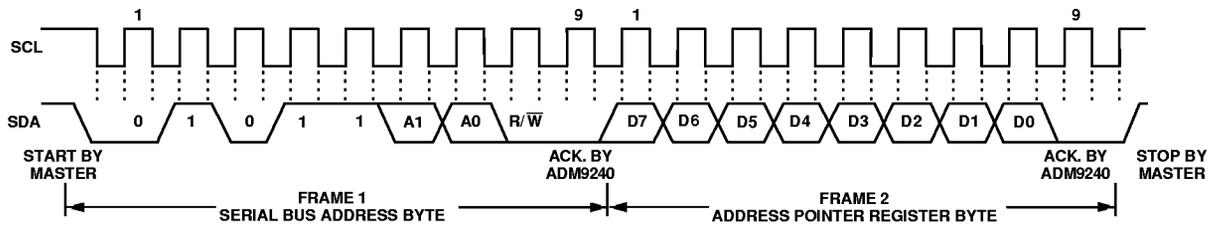

Figure 2b. Writing to the Address Pointer Register only
1. If the ADM 9240's Address Pointer Register value is unknown or not the desired value, it is first necessary to set it to the correct value before data can be read from the desired data register. This is done by performing a write to the ADM 9240 as before, but only the data byte containing the register address is sent, as data is not to be written to the register. This is shown in Figure 2b.
2. If the Address Pointer Register is known to be already at the desired address, data can be read from the corresponding data register without first writing to the Address Pointer Register, so Figure 2b can be omitted.